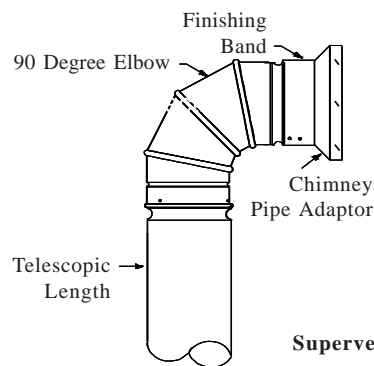

Figure 2A
Step 4. On a Through-The-Wall Installation with a 90 degree elbow, it may be necessary to cut the Chimney Pipe Adaptor and /or the Finishing Band to the required width to be covered. Ensure that the Finishing Band overlaps the crimped end of the DSP and overlaps the bead snug to the beveled edge or to the Basecap as per Figure 2A & 2B.